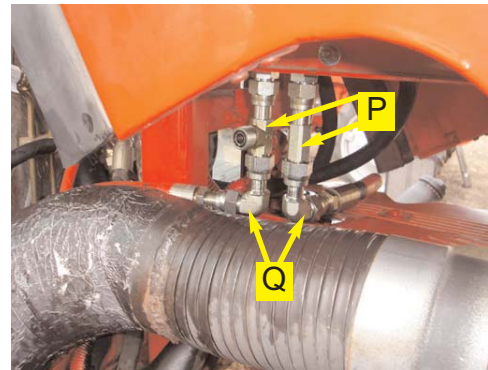

Figure 4d. Steering lines connected at counter-balance valve.
- f. Use the elbow adapter fittings (**Q**) to reconnect the steering lines to the ends of the run tees (**P**) on the counter-balance valve. (Figure 4d.)